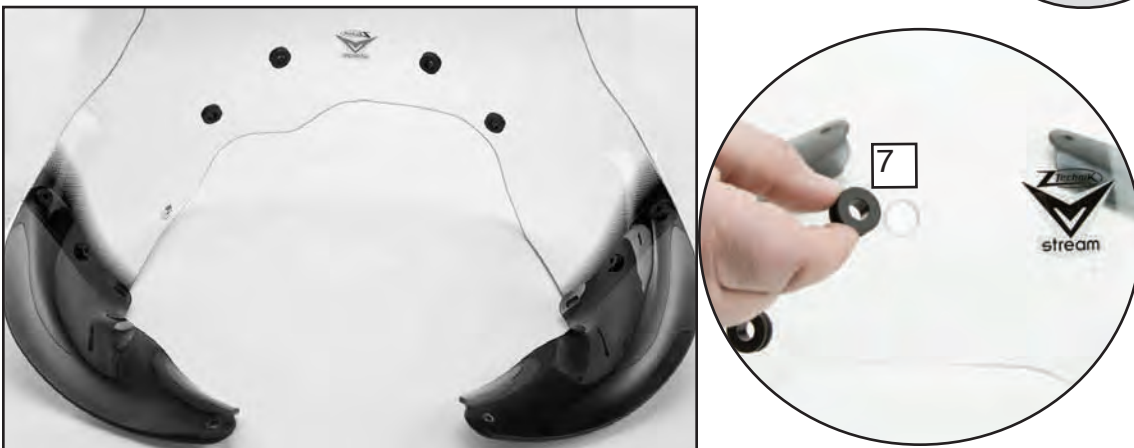

Figure 12
7. Install one Grommet (7) into each wind-screen mount hole. **Figure 12**